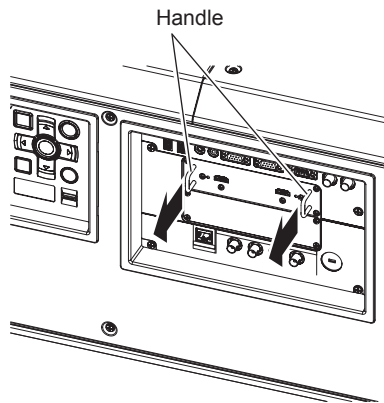

Fig. 1
### 1) Remove the slot cover. (Fig. 1)
**1) Remove the Interface Board. (Fig. 1)**